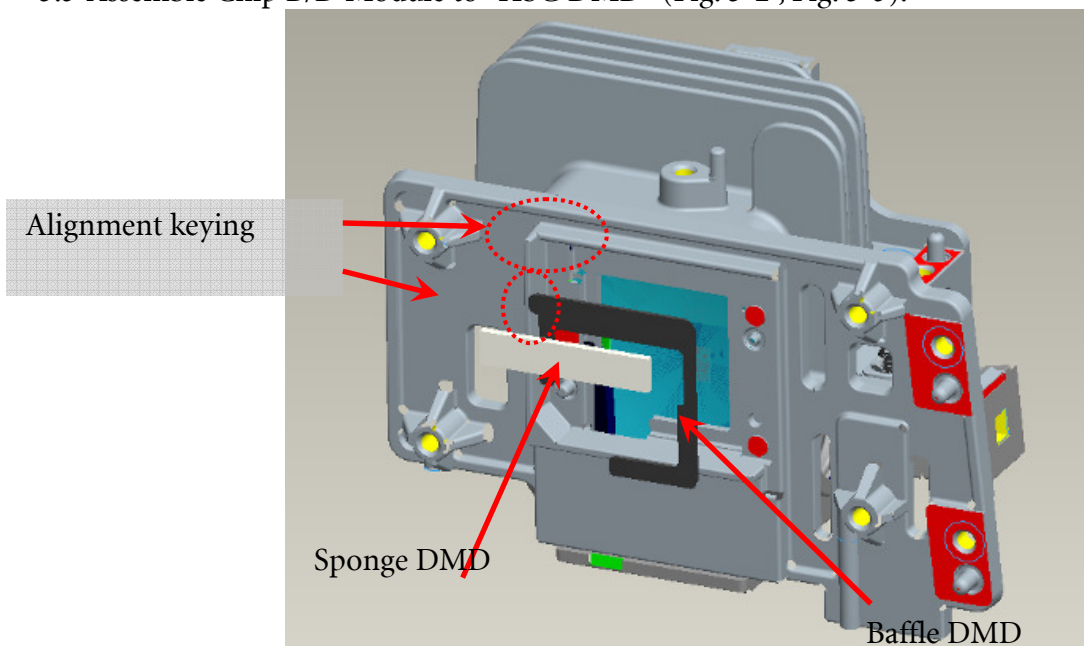

Fig. 5-1
5.1 Assemble "Baffle DMD" to "HSG DMD" (Fig.5-1).
5.2 Assemble "Sponge DMD" to "HSG DMD" (Fig.5-1).